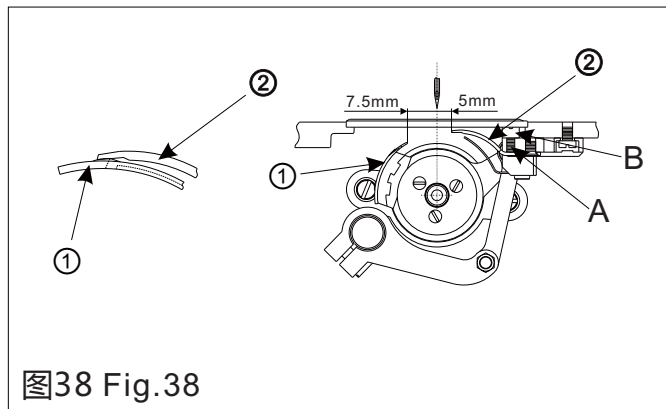

图38 Fig.38
2)Set the solenoid active, turn the trimming cam ① until the cam is touched with the roller of the cam lever ②, then fix the cam.
3)Set the solenoid inactive and make the lever ② restore to the original position, there should be a 0.5~1.0mm clearance between the cam ① and the roller of the cam lever ②.
6.刀片的调整 (图38)